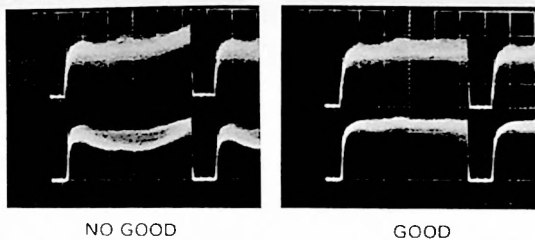

Fig. 4-4-3
- Connect the oscilloscope to TP213 (R) and TP212 (B).
- While observing the color monitor, adjust FOCUS VR116 for minimum green tint in the center. At this time, the center portion of R and B signal waveforms at TP213 and TP212 become maximum. (Fig. 4-4-3)